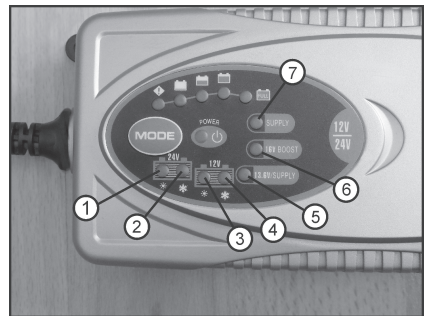
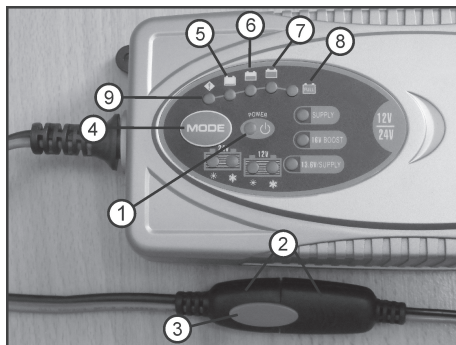

Figure 1
Figure 2
The charger automatically detects whether you have connected a 12 V or a 24 V battery. A battery with a voltage from 14.6 V to 21 V is detected as a 24 V battery. There are six different charging programmes (Mode 1 to 6) available. You can select the desired charging programme only after connecting the battery; to do so, press the Mode button (Figure 2, Pos. 4).
Mode 1 (Figure 1, Pos. 1: 24 V and sun symbol) is a standard charging programme for 24 V batteries. The ending charged voltage is 28.8 V. The maximum charging current is 3.5 A. Mode 1 is suitable for battery capacities between 14 Ah and 120 Ah of the type's lead-gel, lead-acid or lead-fleece.
Mode 2 (Figure 1, Pos. 2: 24 V and snowflake symbol) is a charging programme for 24 V batteries, specifically for battery type AGM. The ending charged voltage is 29.4 V. The maximum charging current is 3.5 A. Mode 2 is suitable for battery capacities between 14 Ah and 120 Ah. Mode 2 is also suitable for charging 24 V batteries at temperatures below 10 °C.
Mode 3 (Figure 1, Pos. 3: 12 V and sun symbol) is a standard charging programme for 12 V batteries. The ending charged voltage is 14.4 V. The maximum charging current is 7 A. Mode 3 is suitable for battery capacities between 14 Ah and 230 Ah of the type's lead-gel, lead-acid or lead-fleece.
Mode 4 (Figure 1, Pos. 4: 12 V and snowflake symbol) is a charging programme for 12 V batteries, specifically for battery type AGM. The ending charged voltage is 14.7 V. The maximum charging current is 7 A. Mode 4 is suitable for battery capacities between 14 Ah and 230 Ah. Mode 4 is also suitable for charging batteries at temperatures below 10 °C.
Mode 5 (Figure 1, Pos. 5: 13.6 V / Supply) is a charging programme in which the charging output is limited to a voltage of 13.6 V. With this programme, 12 V batteries can remain connected permanently without being overcharged. Depending on the charge state, the charging current adjusts automatically. Mode 5 is suitable for battery capacities between 14 Ah and 230 Ah of the type's lead-gel, lead-acid or lead-fleece.
Mode 5 is activated as power supply if, when a battery is not connected, the "Mode" button (Figure 2, Pos. 4) is pressed for approx. three seconds. If the charger is activated as a voltage source, the LEDs "13.6 V / Supply" (Figure 1, Pos. 5) and "Supply" (Figure 1, Pos. 7) light up.
If the power demand of the connected device is even briefly higher than 5 A, the device automatically shuts off the voltage and goes into standby mode (only the LED shown in Fig. 2, Pos. 1 remains lit).
Mode 6 (Fig. 1, Pos. 6: 16 V / Boost) is a special programme for the reactivation of deep-discharged 12 V batteries. The charge output is limited to a voltage maximum of 16.5 V, the charge current to 1.5 A. Depending on the charge state of the battery, the reactivation of the battery lasts up to three hours. The LED "16 V / Boost" blinks in slow rhythm of 1 sec on/off. If the battery voltage is less than or equal to 4.5 V (deep-discharged battery), the programme does not start. In this case the "16 V / Boost" goes out and the LED "Power" lights up (Fig. 2, Item 1).
When the activation programme is finished, the LED flashes on "16 V / Boost" in a rhythm of 0.5 seconds on / 1 second off. Now you can recharge the battery completely by switching to mode 3 or 4 (press "Mode" - see Fig. 2 Pos. 4). Mode 6 is suitable for battery capacities between 14 Ah and 230 Ah of the lead-gel, lead-acid or lead-fleece types.
If the charger cannot successfully finish the reactivation program even after four hours, the electronics switches on a trickle charging of 200 Ma charging current. You can read the status of the battery charge from LED's 5 to 8 (see Figure 2).
a) Connect the charger to a mains socket (220 - 240 V alternating voltage). The “Power” LED lights up (Fig. 2, Item 1). The device is now in standby mode.
b) Attach the charging cable adapter with the alligator clips to the charging cable until it engages (Fig. 2, Pos 2). This connector system (as well as the charging cable adapter with fuse for permanent connection) is secured against polarity reversal and can be put together in only one position. To disconnect, you need to push the red rocker on the adapter (Figure 2, Pos. 3) on the “charging cable side” inwards a bit and then release the connection. Now attach the red alligator clip to the positive terminal, the black alligator clip to the negative terminal of the battery.
c) Use the “Mode” button (Fig. 2, Pos. 4) on the charger to select the appropriate charging programme (Mode 1 to 6). To do this, press the “Mode” button repeatedly until the desired state is reached.
- d) When the rechargeable battery is connected with the correct polarity, not defective (high-impedance/disconnected) and connected to the mains, the charging process begins in less than one second. Depending on the charge state and condition of the connected battery (e.g., battery old or new; battery flat, etc.), the four LEDs (Figure 2, Pos. 5 to 8) flash or light up and show the charging progress.
With a flat battery, the first red LED (Fig. 2, Pos. 5) flashes. When the first red LED (Figure 2, Pos. 5) stays lit, the battery is charged to 25%.
The next red LED flashes (Fig. 2, Pos. 6). When this red LED (Figure 2, Pos. 6) stays lit, the battery is charged to 50%.
The next red LED flashes (Fig. 2, Pos. 7). When this red LED (Figure 2, Pos. 7) stays lit, the battery is charged to 75%.
The next LED, "FULL", flashes green (Figure 2, Pos. 8). When the battery is fully charged, the "FULL" LED (Fig. 2, Pos. 8) stays lit. The charger now gives the battery only low current for trickle charging.
If a battery that is to be charged has been deeply discharged, the charger begins first with a special refreshment programme (pulse charging). In this case, the first LED for the charging status (Figure 2, Pos. 5) flashes in a fast rhythm (0.5 seconds on/off). In the initial phase of the charging process, the development of the voltage level is monitored. If the voltage for a 12 V battery is above 10.5 V (24 V battery above 21 V), the charger switches back to the previously selected charging programme.
- e) End the charging process when the "100%" LED (Figure 2, Pos. 8) stays lit. To do this, remove the battery from the charger and then pull the mains plug out of the mains outlet.
A polarity reversal protection is built into the charger. If the charger is not yet plugged into a mains outlet and a battery is connected with the poles reversed, the red LED for "Error" (Fig. 2, Pos. 9) lights up. Check the polarity of the battery and the connection cable.
The charger constantly monitors the charging process. If a defective battery, too high or too low of a battery voltage, too long a charging time (more than seven hours for the refreshment programme; more than forty-one hours for the charging programme, if the trickle charging has not yet been initiated due to the battery voltage) or a short circuit is detected, the electronics shut off the charging process. The device is then in standby mode and the "Power" LED (Figure 2, Pos. 1) lights up.